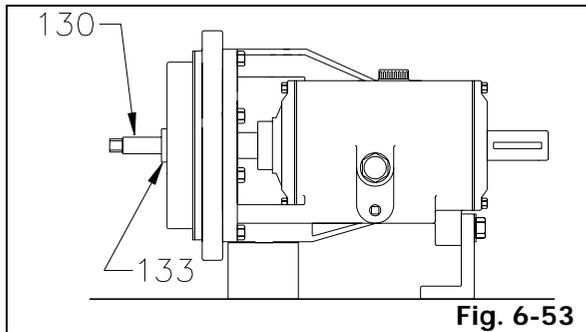

Fig. 6-53
4. For KS-SR, coat shaft (130) surface with oil, slide the rotary portion of mechanical seal (200) carefully onto shaft (130) by hand until the lapped surfaces of the mechanical seal (200) are seated on each other. Install shaft sleeve (133) onto shaft (130) until shaft sleeve (133) is fully seated on the spring cap of the mechanical seal (200) (Fig. 6-53).